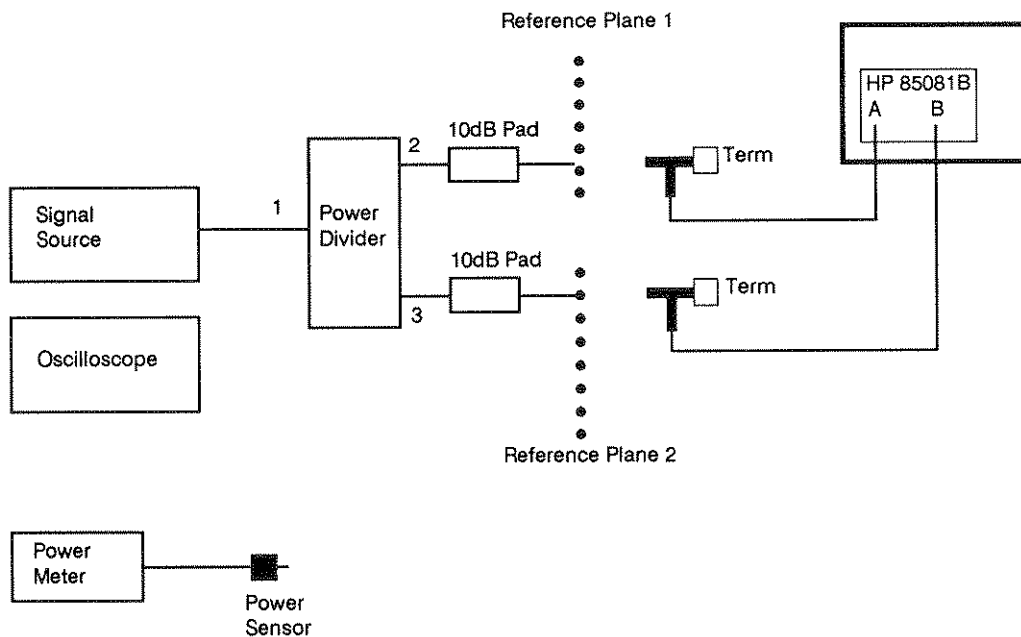

Figure 5-3. General Test Setup
1. Configure the equipment as shown in Figure 5-3, with the HP 85081B installed in either an HP 8508A or HP 70138A Vector Voltmeter mainframe.
1. Configure the equipment as shown in Figure 5-3. Separate the Channel A probe from the Channel A 50ohm Tee (being careful to observe proper static control procedures). Connect the Channel A probe to the oscilloscope channel 1 input using the probe-to-BNC adaptor (HP 10218A).